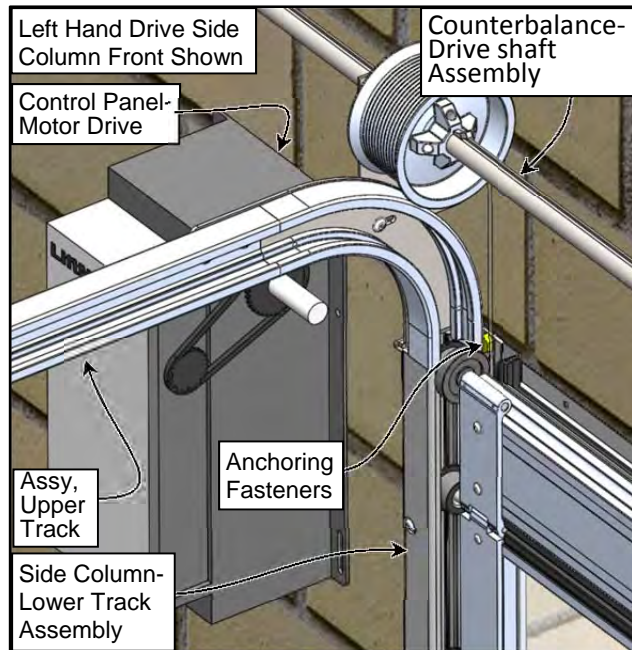

Figure 23
11. Inspect for loose or worn mounting anchors in the Head Assembly/Upper section of the Lower Track Assembly. (See Figure 23)